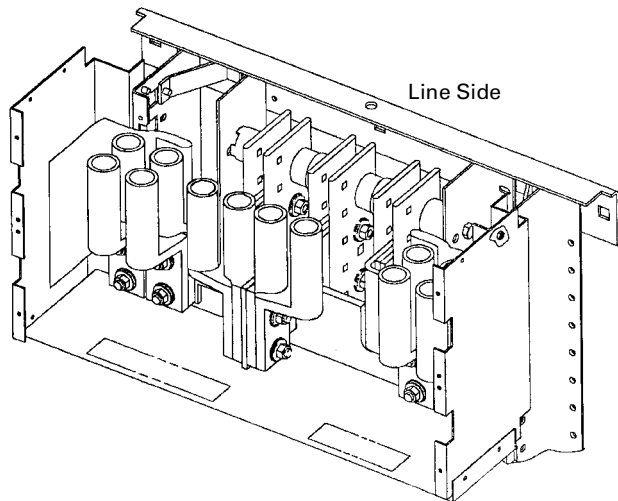

Figure 1. Lug assembly orientation.
- 1. Orient the lug base** with the lug wire holes facing the end of the box stamped **LINE** or toward the line side of the interior, as illustrated in Figure 1.